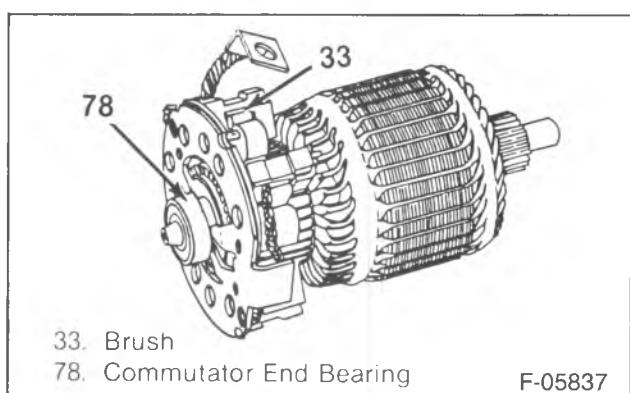

Figure 41—Armature Assembly
1. Nut (44) and lead at solenoid terminal.
2. Through bolts (35).
3. Two screws and end plate (75).
4. Field frame with armature and shield (77) from the drive end.
5. Armature (9) from the field frame (41).
6. Commutator end bearing (78) from the armature shaft with J 28509-A or equivalent.
- Lift the brushes so each spring rests against the brush to prevent brush damage during brush assembly removal (figure 41).